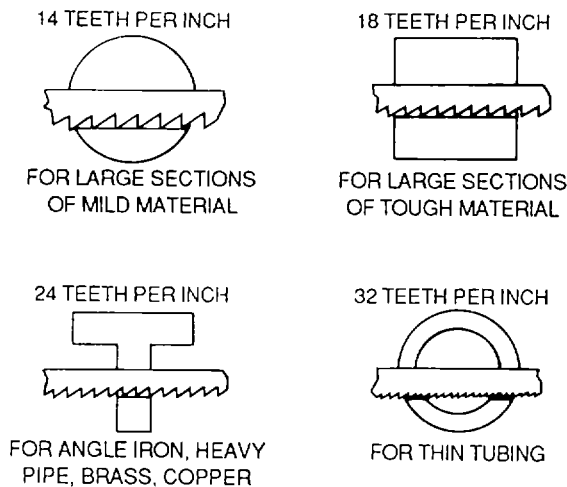

Figure 4-98. Application of Blade Pitch for Certain Materials
(2) *Stock hardness.* Generally speaking, the pitch of the blade depends on the hardness of the stock. Figure 4-98 shows the typical applications for the different saw blade pitches.